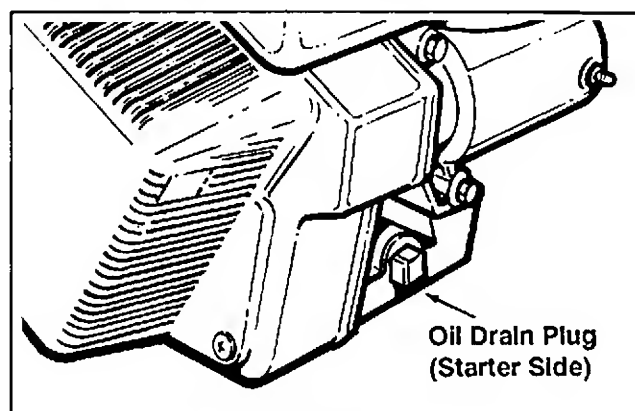

Figure 9-1. Draining Oil.
1. Remove the oil drain plug and oil fill cap/dipstick or oil fill/check plug on CH6. See Figure 9-1.